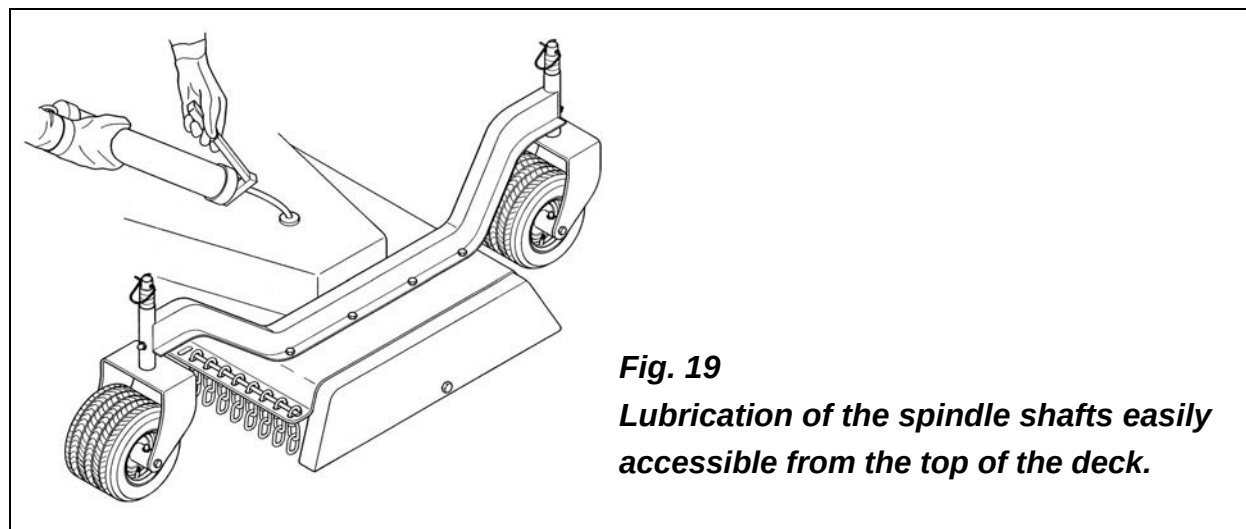
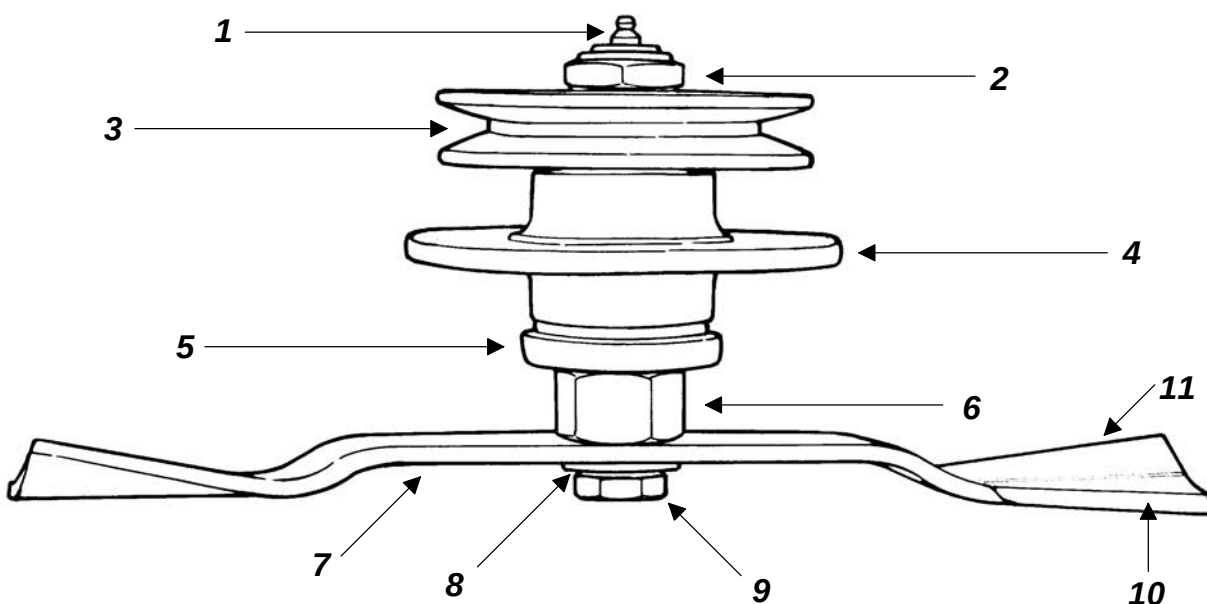

Fig. 19
Fig. 20 - Spindle assembly.
1. Lubricate the nine spindles with multipurpose grease (see fig. 19). Pump grease until you see it seep through the hole on the bottom cover (see #5, fig. 20) of the spindle. The top grease fittings are easily accessible from the top of the deck by simply removing the plastic dust guards.
1. The blade turns in a **counter clockwise** direction when viewed from the bottom of the deck. The cutting edge must be towards the direction of rotation. The lift wing of the blades is closest to the deck and the cutting edge away from it (see fig. 20).
2. Install the cup washer (see fig. 20) over the blade bolt and secure the blade in place as described above.